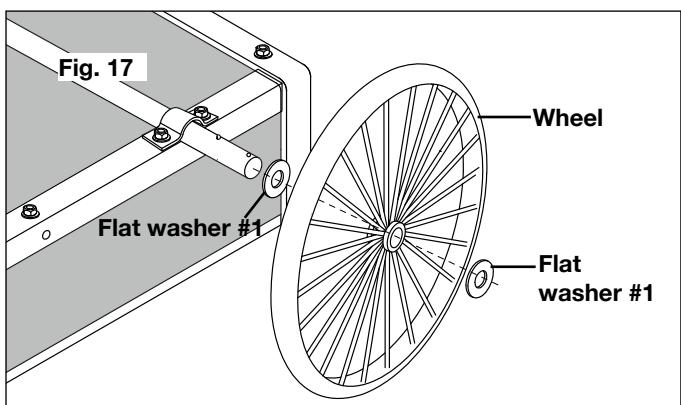

Fig. 17
18. Then place a flat washer #1, an inflated wheel, and another flat washer #1 onto the axle (Fig. 17).